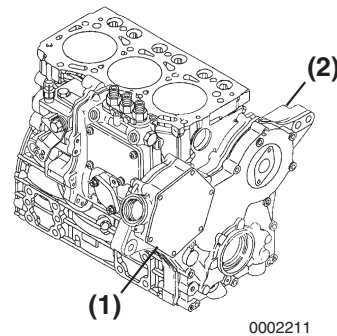

Figure 7-10
13. Remove the fuel injection pump drive gear access cover (**Figure 7-10, (1)**) from the gear case cover (**Figure 7-10, (2)**).